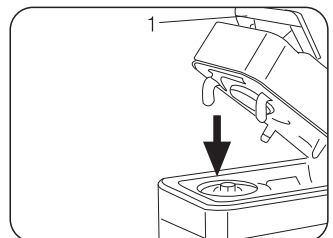
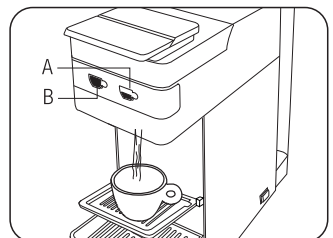

Fig. 9
Fig. 10
- Close the lever (1) (Fig. 9) completely and press one of the dispensing buttons: short (A), big (B) according to your taste (Fig. 10)
Big cup: Press and hold the button (B). The machine will start delivering water. Once the desired water level is reached release the button (B). The machine will then stop delivering water and the desired quantity will be memorized for future dispensing. (Fig. 10)
Small cup: Press and hold the button (A). The machine will start delivering water. Once the desired water level is reached release the button (A). The machine will then stop delivering water and the desired quantity will be memorized for future dispensing. (Fig. 10)